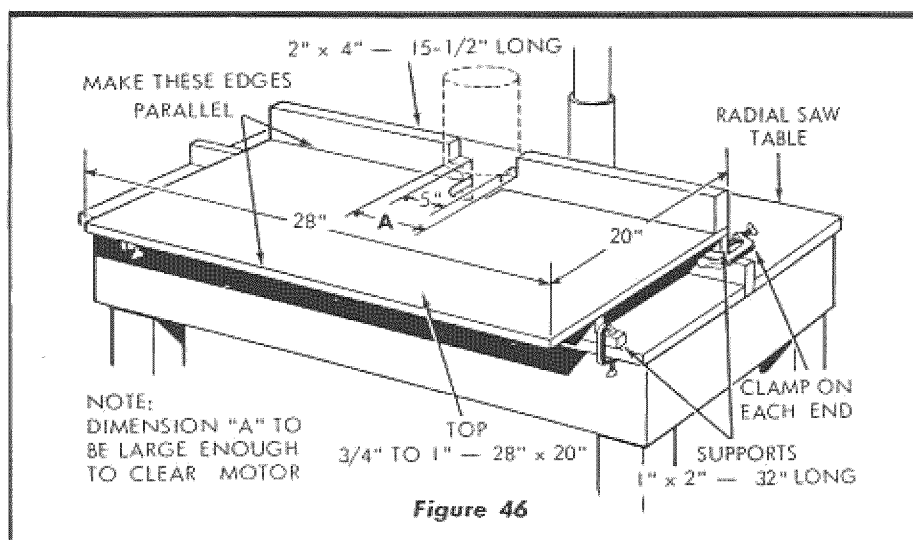

Figure 46
8. An auxiliary table top for molding or shaping can be constructed similar to figure 46. Note the shape of the back guide fence against which your work piece is moved. A cut-out 5" wide should be made at the center of this guide fence to give adequate clearance for the molding head and cutters. Also a wider clearance marked "A" should be made to allow for the radial saw motor. Be sure the front edge of the auxiliary table is parallel with the surface of the guide fence. With the auxiliary table top thus completed it is ready for use by merely clamping it into position with "C" clamps.